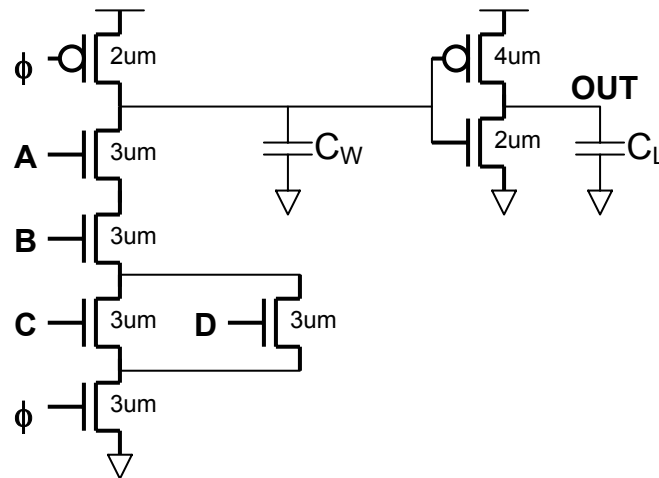
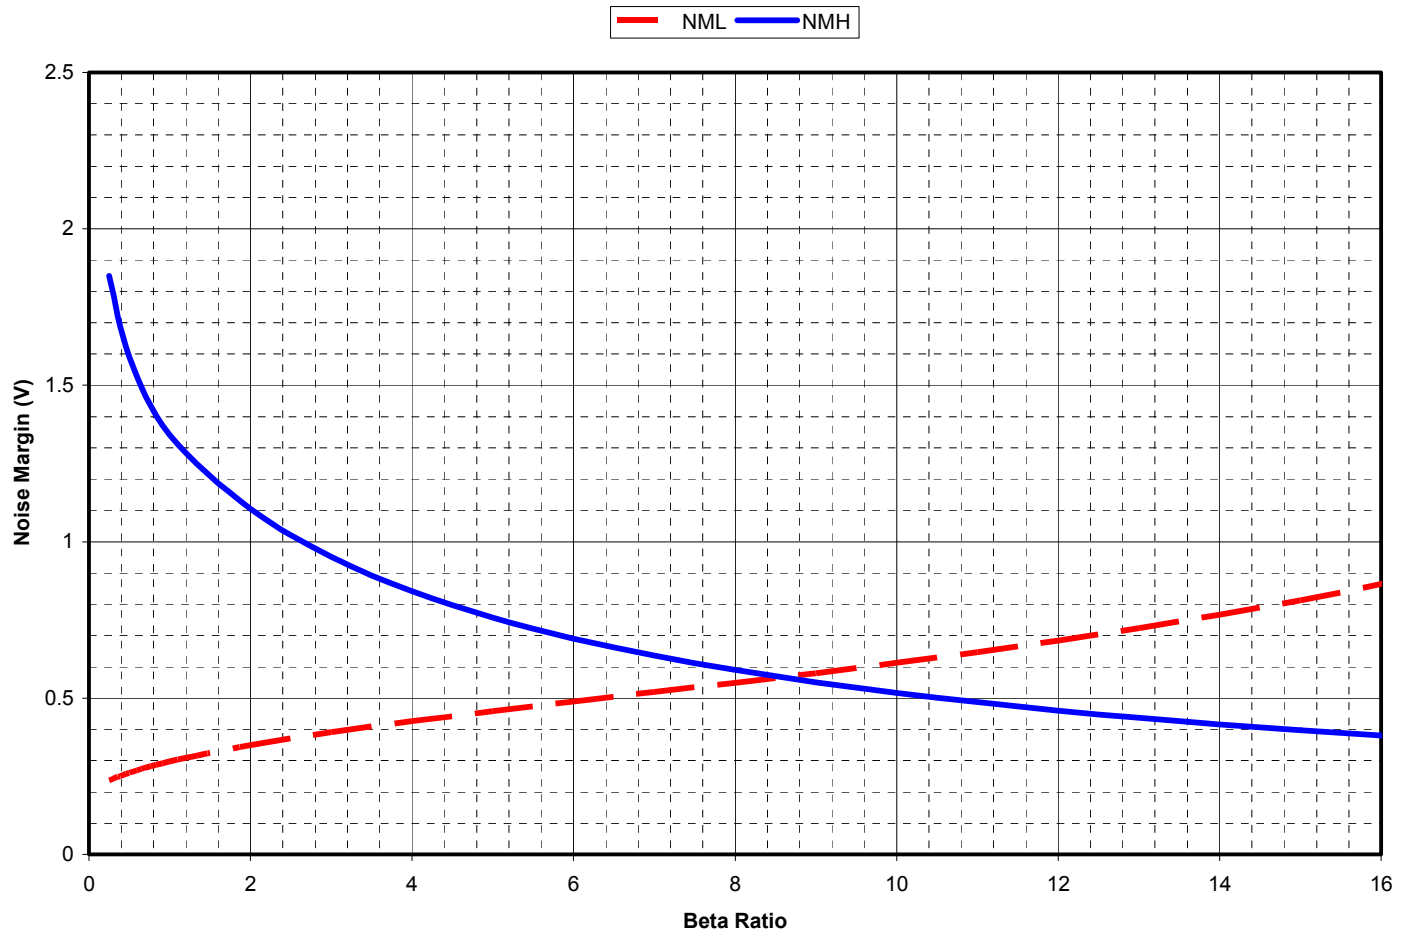

Figure 4.2
Figure 4.7
3. **Dynamic Logic:** Consider the domino gate below in Figure 4.2.
- b. Let the NMOS devices in the dynamic gate have $W = 3\mu\text{m}$ and minimum channel length (sizes are notated on Figure 4.2). The inverter has $W_n = 2\mu\text{m}$ and $W_p = 4\mu\text{m}$ (also L_{min}). To calculate junction capacitances, assume that $C_{sb} = C_{db} = 0.6 \text{ fF}/\mu\text{m}$ of device width for both NMOS and PMOS devices. Calculate C_{gc} only at the input to the static CMOS inverter. Ignore overlap capacitances in this entire problem. Determine the reduction in voltage at the input to the inverter under worst-case charge sharing conditions.
- c. Besides reliability problems, what is the least desirable side-effect of charge sharing in dynamic circuits similar to the gate in Figure 4.2? Briefly explain.
- e. Using Figure 4.7 and results from D, what is a good β ratio for the static inverter in Figure 4.2?